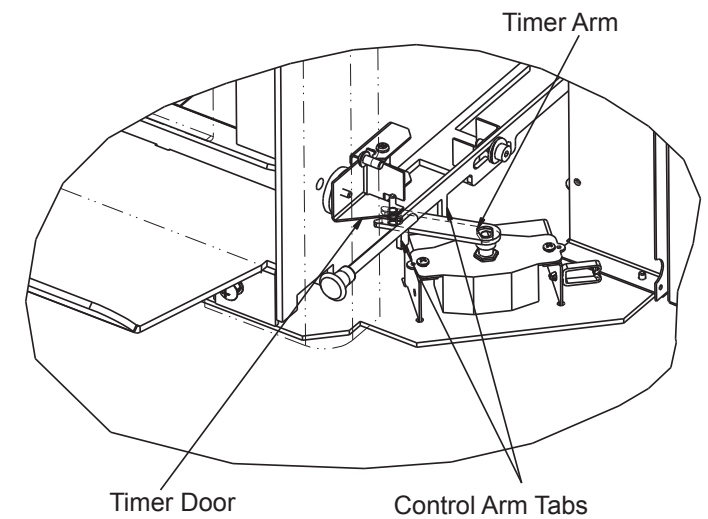

Figure 20.5
2. Re-install the timer assembly. The timer arm must be between the first and second control arm tabs (**Figure 20.5**).